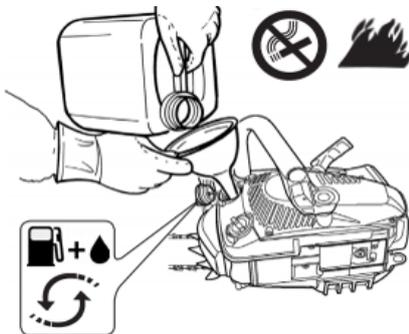
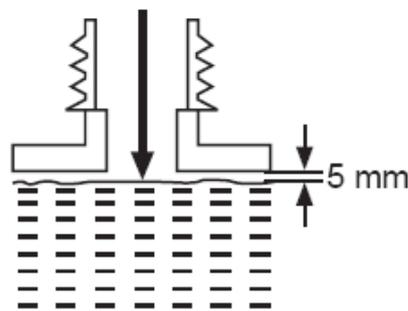

Fig.16
Fig. 17
- 4) Fill correctly mixed fuel into the fuel tank (Fig.16). Do not overfill and leave approximately 5 mm of space between the top of the fuel and the inside edge of the tank to allow for expansion. (Fig.17)